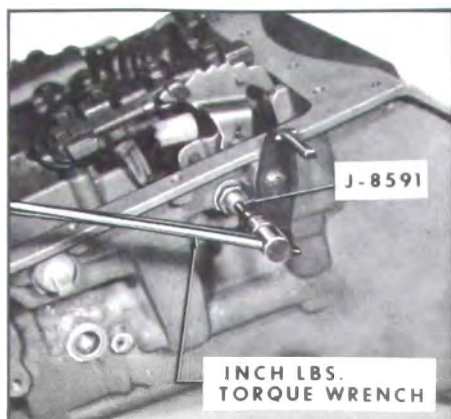

Figure 1-16—Torquing Low Band Screw
a. Adjust low band adjusting screw to 40 in. lbs. torque. See Figure 1-16.